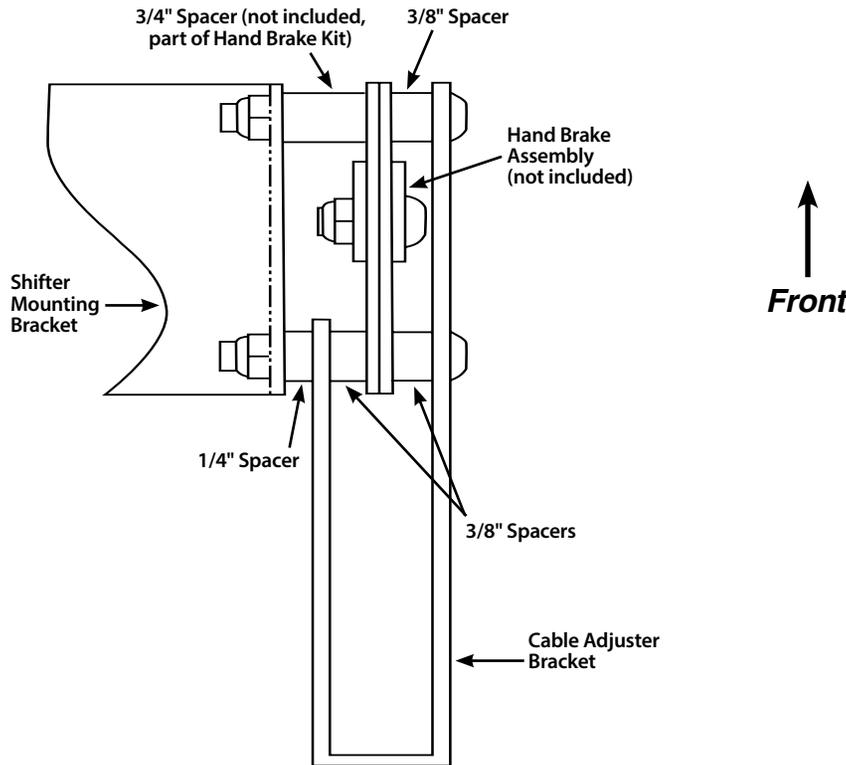

Fig. 5
Step 3, Trans Mount Hand Brake Only: The cable adjuster bracket will be installed at the same time as the Lokar Hand Brake assembly. Included in the Emergency Brake Cable Kit there are three 3/8" spacers and one 1/4" spacer to center the Hand Brake in the cable adjuster bracket. On the front mounting bolt, install one 3/8" spacer on the passenger side between the cable adjuster bracket and the Hand Brake, and one 3/4" spacer (not included, part of the Trans Mount Hand Brake kit) on the driver side between the Hand Brake and the shifter mount bracket. On the rear mounting bolt, install one 3/8" spacer on the passenger side between the cable adjuster bracket and the Hand Brake; one 3/8" spacer on the driver side between the Hand Brake and the brake cable bracket; and one 1/4" spacer between the brake cable bracket and the shifter mount bracket. **Fig. 5**